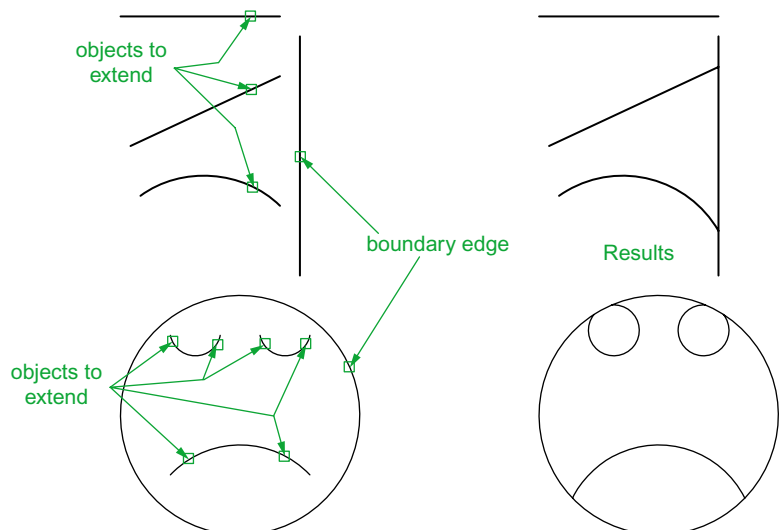

Fig. 5.40 Examples – **Extend**
### Examples – Extend (Fig. 5.40)
1. Construct plines and a circle as shown in the left-hand drawings of Fig. 5.40.
The results are shown in Fig. 5.40.